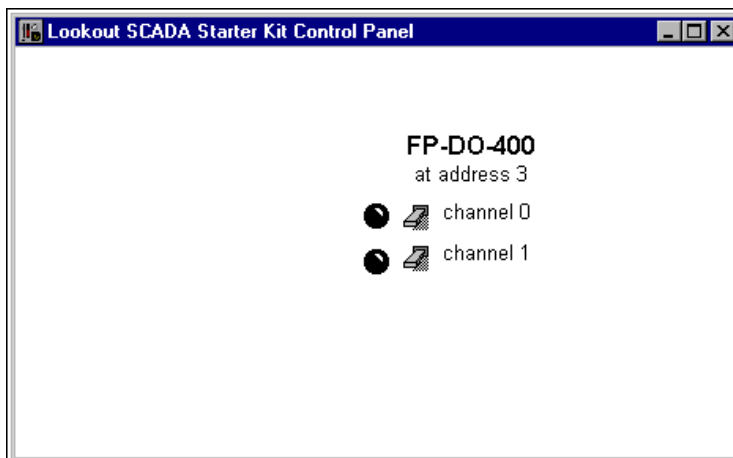

Figure 27. Lookout Control Panel with Switches and Indicators
4. Your front panel should now look something like Figure 27. Remember that your indicators are connected to your FieldPoint object, not to the Lookout switches.